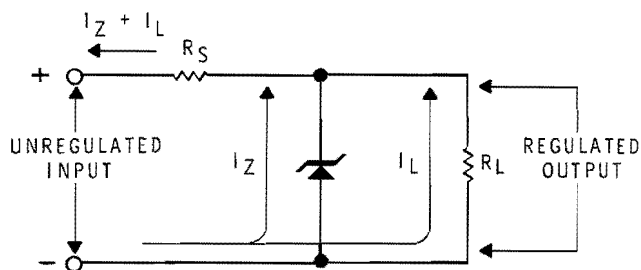

Figure 4-38
When a load is connected to the output of the regulator circuit, the regulator must supply current as well as voltage to the load. This situation is shown in Figure 4-38. Notice that the load resistor ( $R_L$ ) requires a specific load current ( $I_L$ ) which is determined by its resistance and the output voltage. The current through the zener diode ( $I_Z$ ) combines with  $I_L$  and flows through the series resistor ( $R_S$ ). The value of  $R_S$  is chosen so that  $I_Z$  remains at a sufficient level to keep the diode within its breakdown region. At the same time, it must allow the required value of  $I_L$  to flow through the load.
52. (voltage) Refer to Figure 4-38. Assume that the unregulated DC input voltage can vary from 9 volts to 18 volts. Also assume that the load current can vary from 0 to 30 mA. Finally, assume that the output voltage should be 5.1 volt. For this circuit, we would choose a zener with a zener voltage of \_\_\_\_\_ volts.
54. (118) However, because this is not a standard resistor value, a 100 ohm resistor would probably be used. The maximum voltage dropped by this resistor is the difference between the maximum input voltage and the regulated output. The resistor drops \_\_\_\_\_ volts.